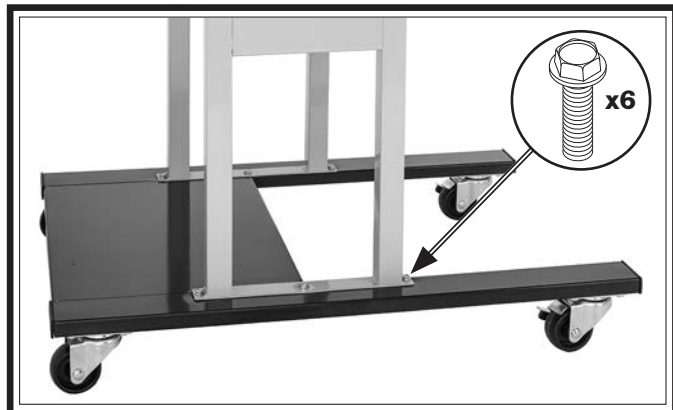

Figure 10. SB1092 side panel attached to base.
2. Attach side panels to base with $\frac{5}{16}$ "-18 x $\frac{1}{2}$ " flange bolts (see **Figures 10–11**).